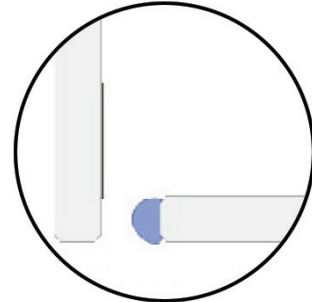

FIG 18.
- Run a continuous bead of silicon down entire length of 10mm face of installed wall to glass panel and across floor channel to the width of the glass to glass panel (FIG 18).